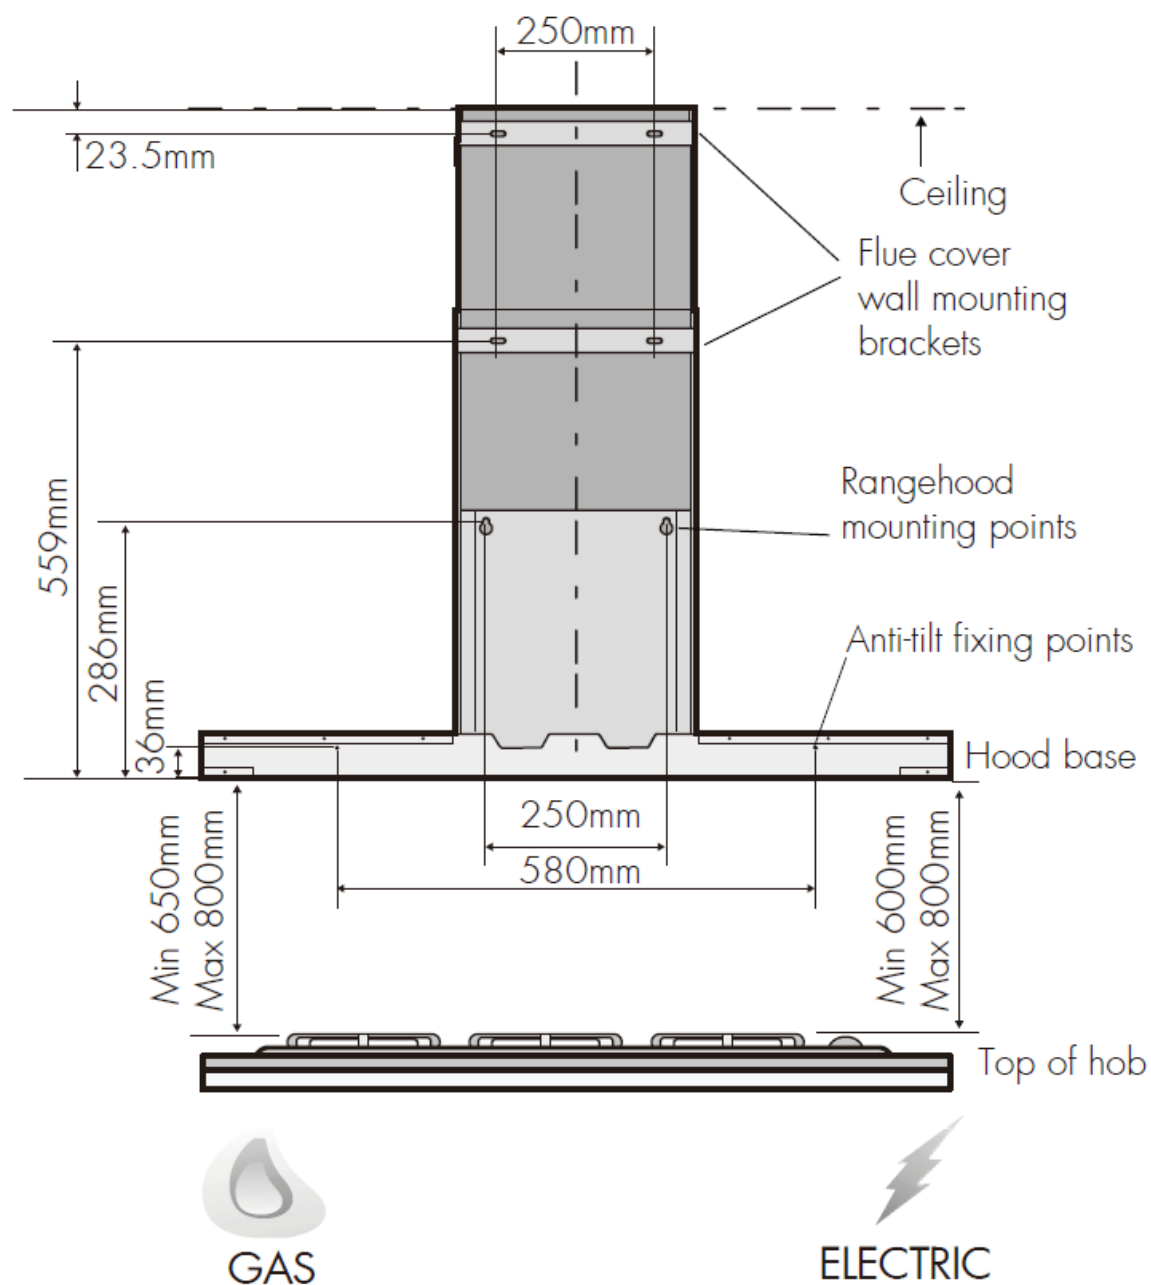

Fig. 6
1. Using a spirit level mark a vertical centre line on the wall where the hood is to be positioned, and a horizontal line at the hood base position (refer Fig. 6 below).
2. Mark the location for flue cover wall mounting brackets and rangehood mounting points and anti-tilt fixing points above the hood base using the hood base as the reference point (Fig. 6 below).
4. Remove the protective plastic film from the hood body and hang hood on the mounting screws then secure at the anti-tilt locations as indicated in Fig. 6 & 7.